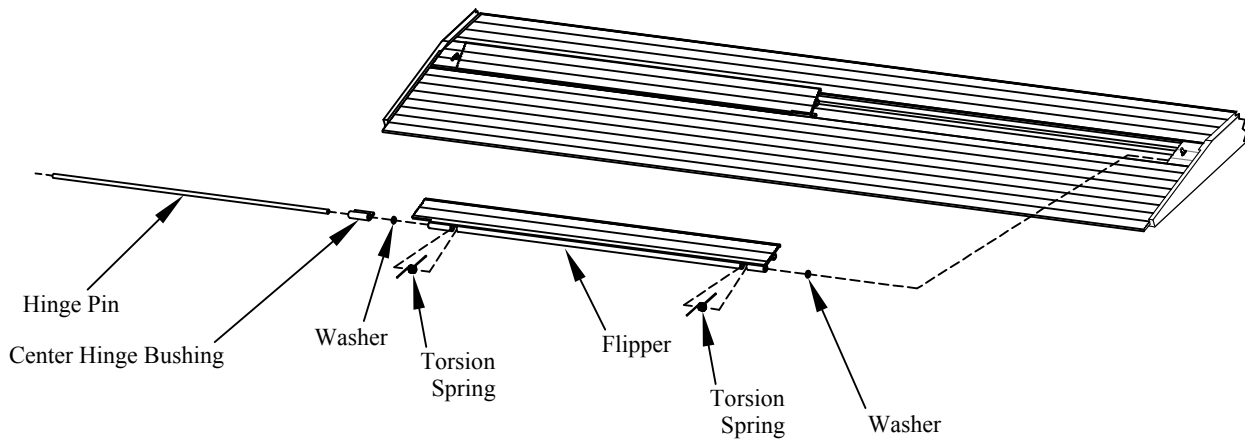

Figure 4: Cart stop assembly.
7. **Assemble** the flipper as shown in Figure 4.